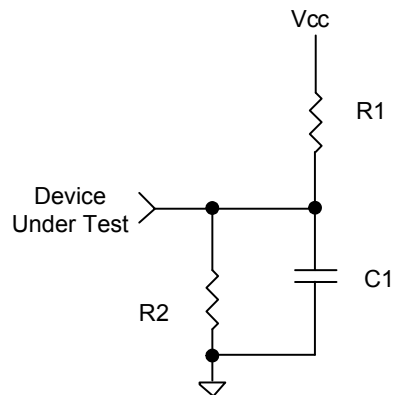

Figure 10: AC Test Load
6. With load specified in Figure 10 on page 27, Test Load A.
7. With load specified in Figure 10 on page 27, Test Load B.